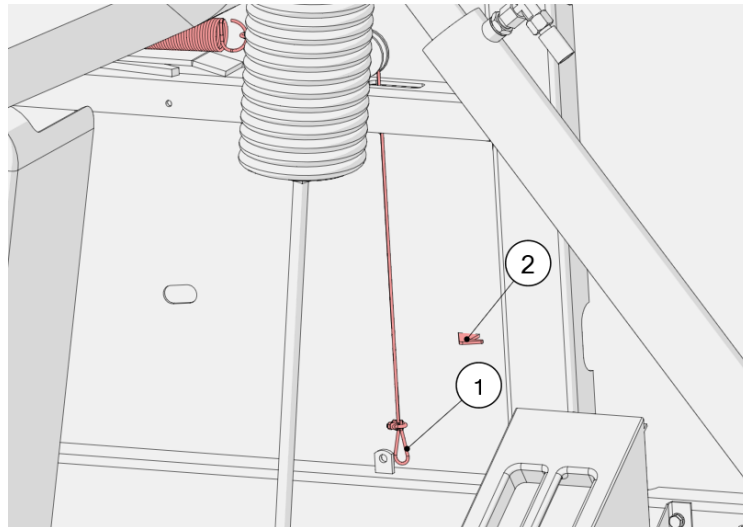

Figure 65. Locking the rocker arm
- Lock the rocker arm by attaching the cord (1) to the hook (2), as shown in Figure 65;